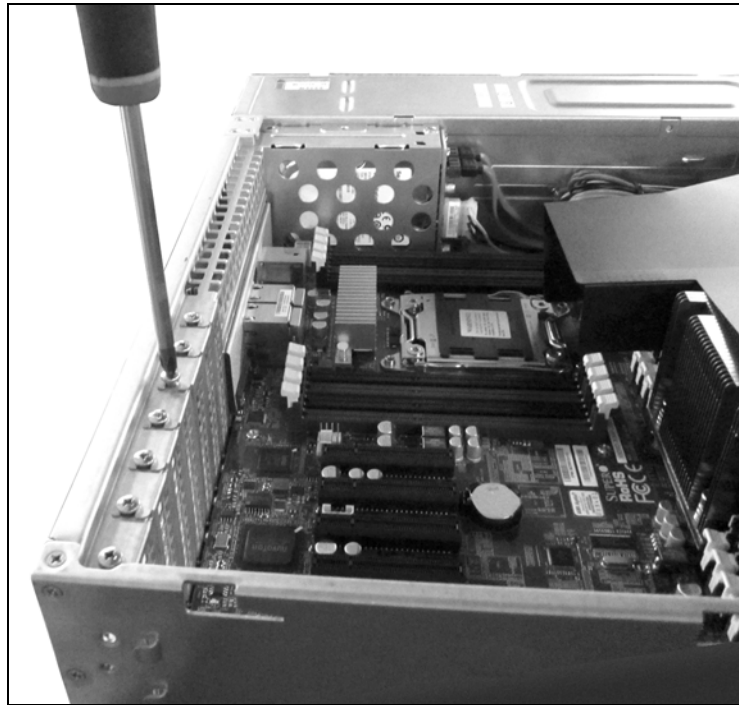

Figure 12 Remove the PCI blanking plate screw.
9. Using a #2 Phillips screwdriver, install the bracket screw to secure the HBA to the chassis (see Figure 12 on page 32).